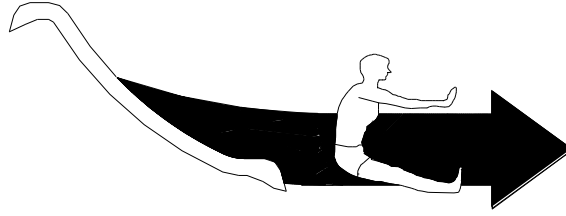

Figure 1
1. SLIDE FEET FIRST ONLY AS SHOWN IN FIGURE 1. **DO NOT SLIDE HEAD FIRST**
Slide users must use the sitting slide position, facing forward, feet first as shown in Figure 1.
All drawings in this Slide Owner's Manual (Figures 1 through 5) are for illustration purposes only and are NOT TO SCALE.